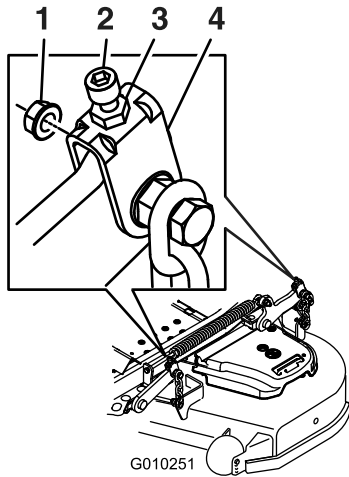

**Figure 88**
9. On both sides of the deck, measure from the level surface to the front tip of the blade (Position A); refer to Figure 88.
15. On both sides of the deck, measure from the level surface to the back tip of the blade (Position B). The measurement should read 8.3 cm (3-1/4 inches); refer to Figure 88.